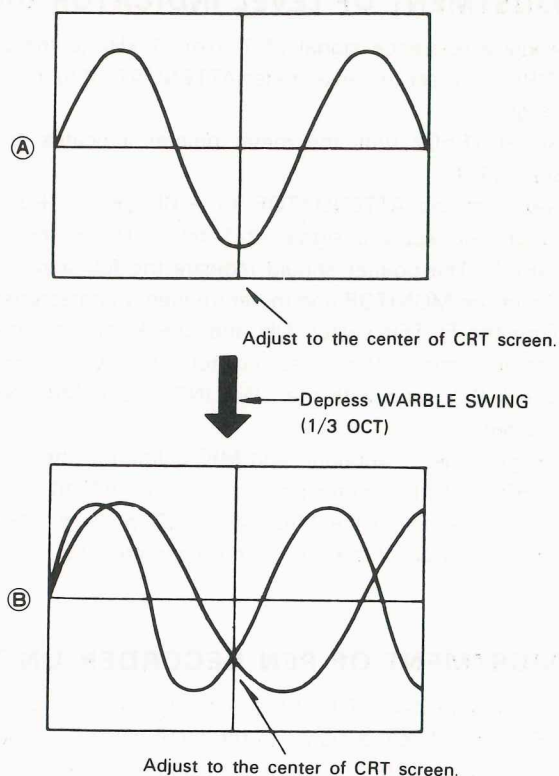

Fig. 11
- \* Adjust VR404 and VR406 as shown in Fig. 11-Ⓐ.
- \* Adjust VR403 as shown in Fig. 11-Ⓑ.
- \* Adjust VR407 as shown in Fig. 11-Ⓒ.